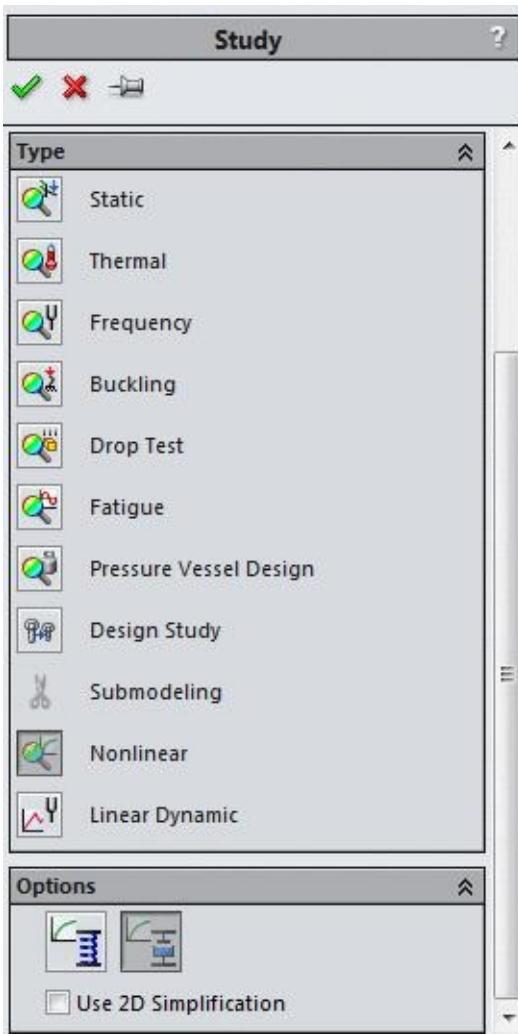

Figure-1. Study PropertyManager
- Click on the **Nonlinear** button and then on the **Dynamic** button from the **Options** rollout; refer to Figure-1.